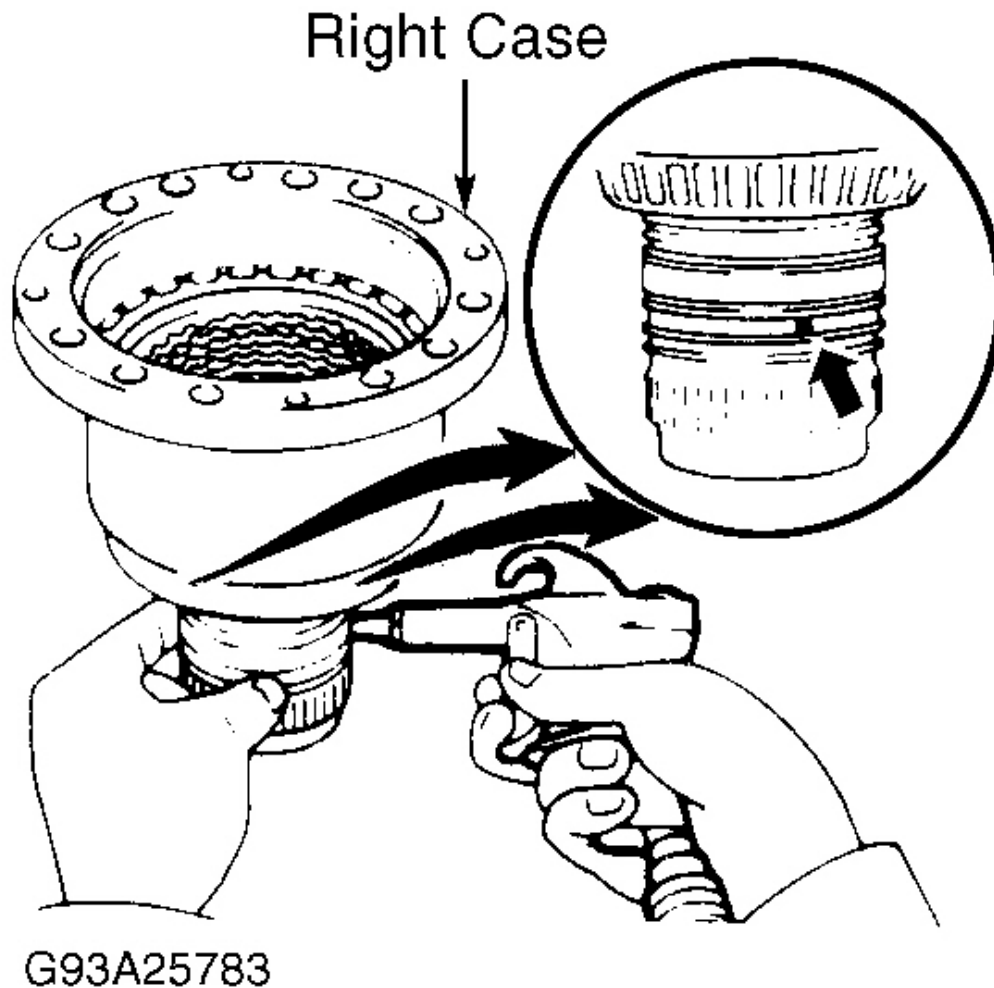

Fig. 59: Checking Operation Of Differential Clutch Pistons (A-540H)
5. Remove No. 1 thrust washer. Check operation of clutch pistons. Plug one hole in right case with your hand. Apply compressed air into other hole and confirm pistons move. See **Fig. 59** .